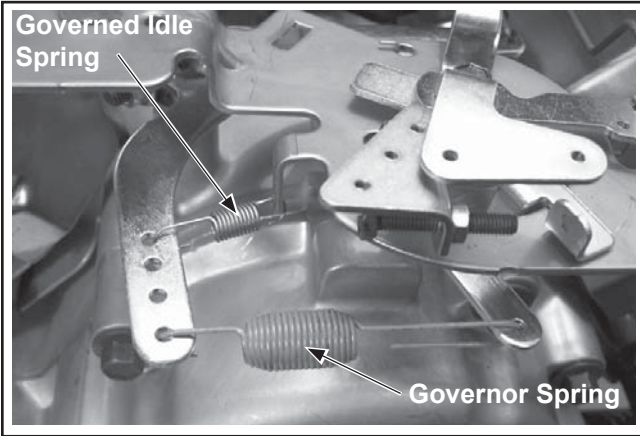

Figure 10-78. Governor and Dampening Spring Installation (Typical).
- 3. Connect the governed idle spring to governor lever and main control bracket. Connect the governor spring from the throttle control bracket to the appropriate hole in the governor lever, as indicated in the applicable chart. Note that hole positions are counted from the pivot point of the governor lever. See Figure 10-78.